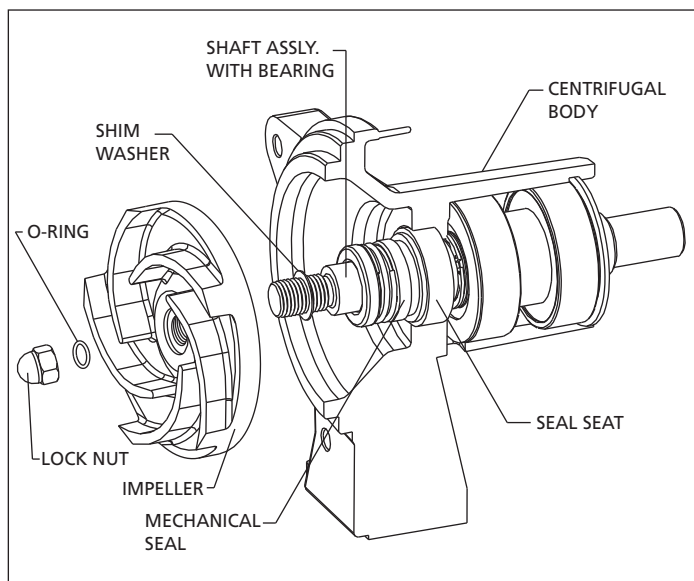

Figure 7 - Seal and Impeller Assembly
6. Wet the inside rubber portion of the new seal head (part of Ref. No. 5) with a light coating of soapy water. Slide seal head onto the pump shaft with the precision sealing surface (carbon) facing the seal seat ceramic face (See figure 7). This completes seal installation.